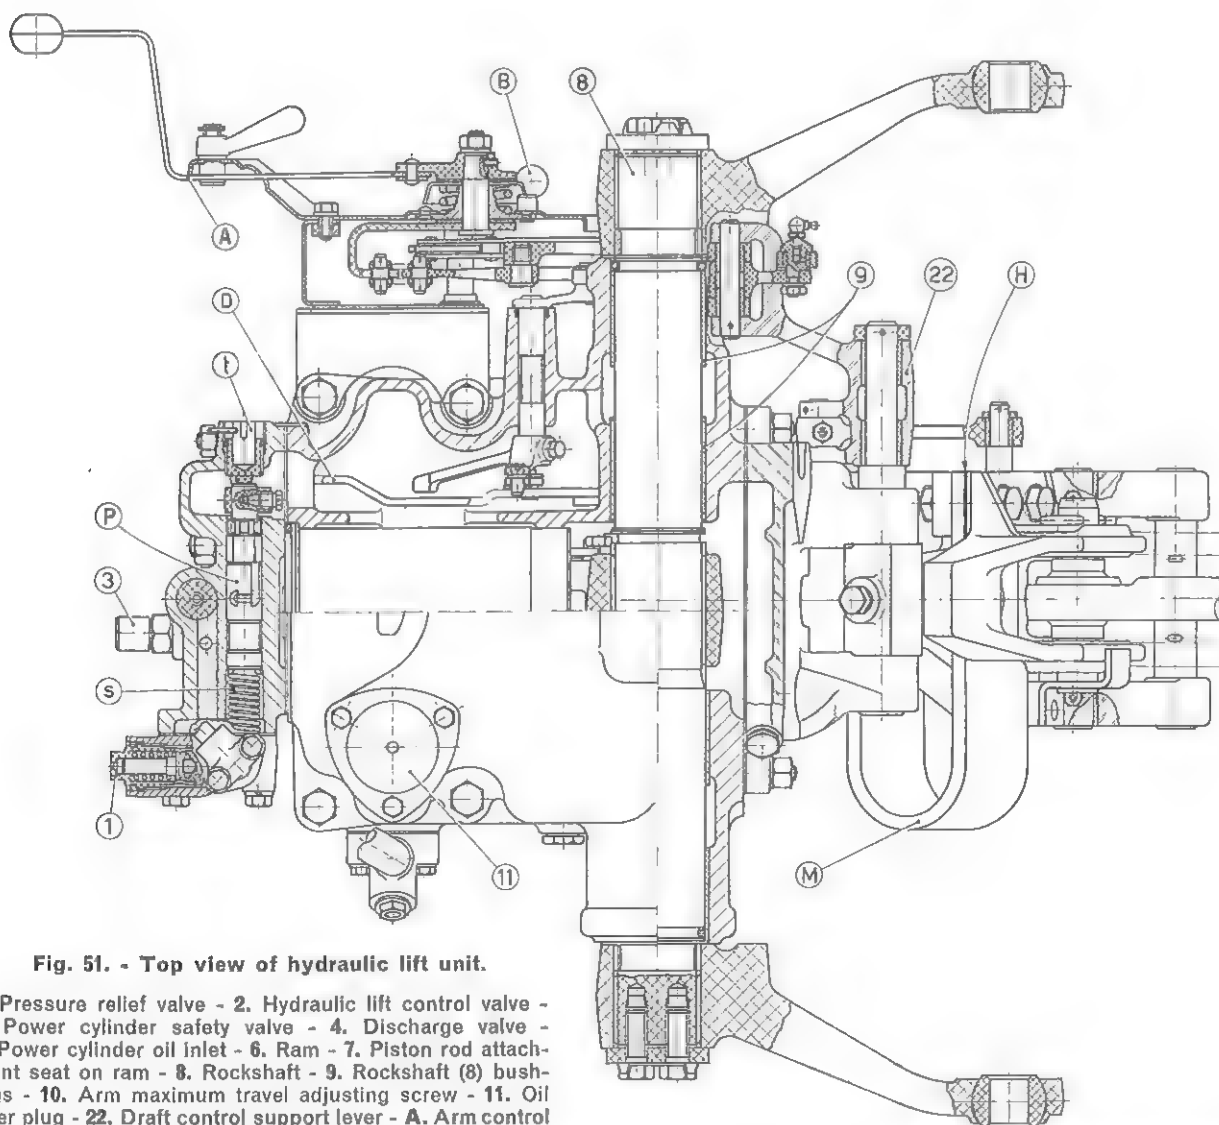

Fig. 51. - Top view of hydraulic lift unit.
(See fig. 51 for the reference marks).
- a) *Distributing valve setting*: bring the engine to maximum acceleration, lift the arms and consequently the loads they carry and shift the selector lever to position control setting (downwards). Remove the cotter pin and slowly screw the adjusting plug in (t, fig. 51) until the applied load starts oscillating vertically, then loosen the plug half a turn and set the cotter pin back in place.